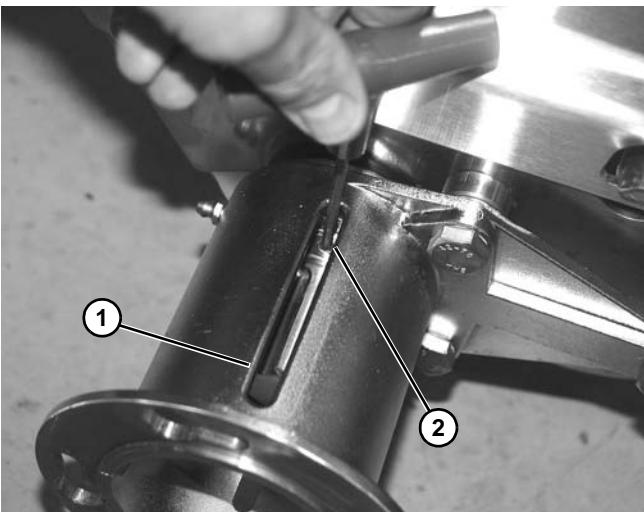

Figure 66
- Using a hex key wrench through slotted access (**Figure 66, item 1**) of motor mount, loosen two set screws (**Figure 66, item 2**) securing bearing onto drive spindle.